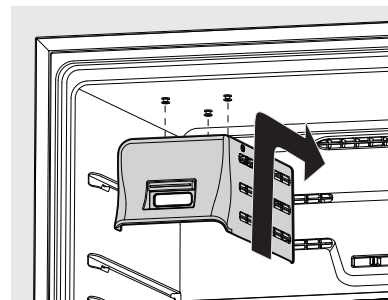

Figure 12
- Slide the ice maker cover onto the shoulder screws on top of the unit until it locks into place with a snap. See Figure 12.